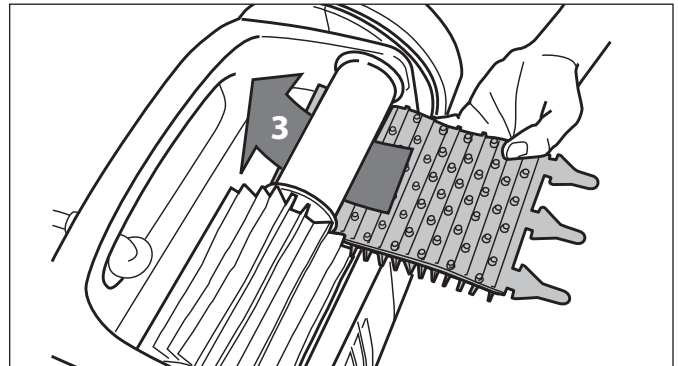

Figure 28. Install the New Brush
3. To install a new brush, position the new brush on the roller with the spikes facing downwards (Figure 28).